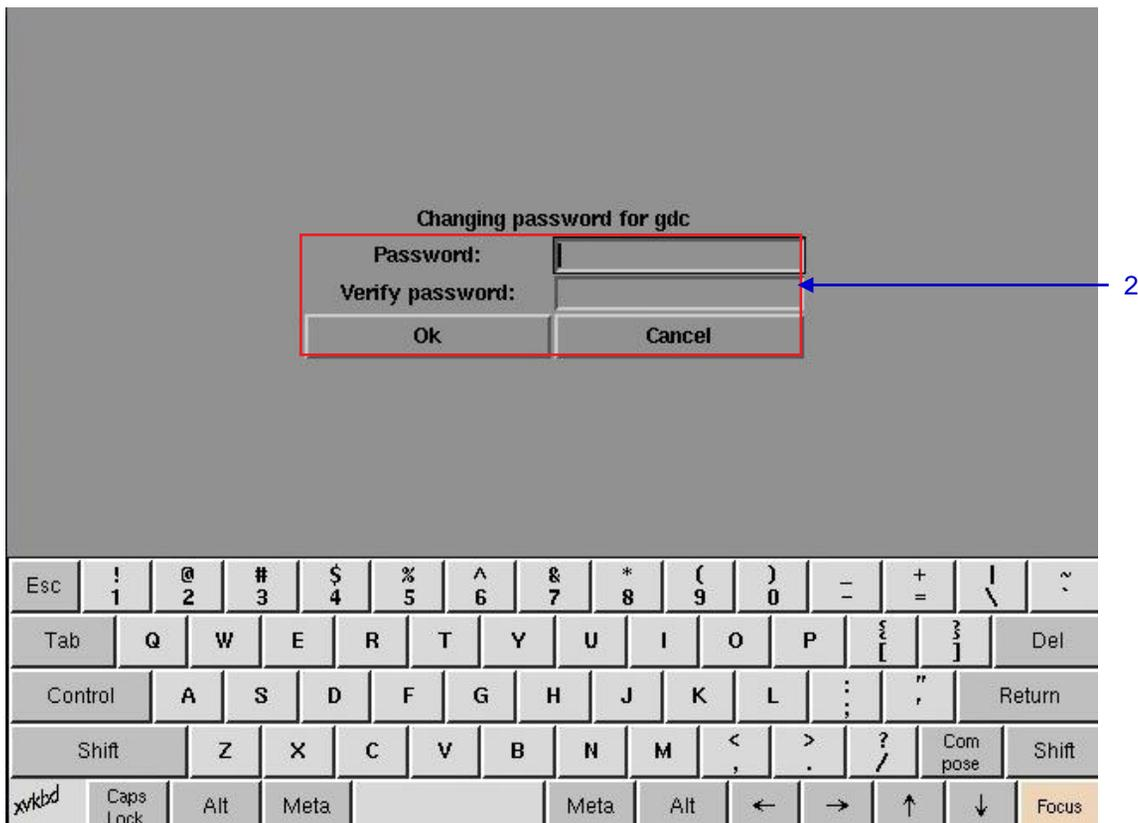

Figure 126 Password entry to change password.
- 1 Select **Change current user password**. A new window for password entry appears as seen in **Figure 126**.